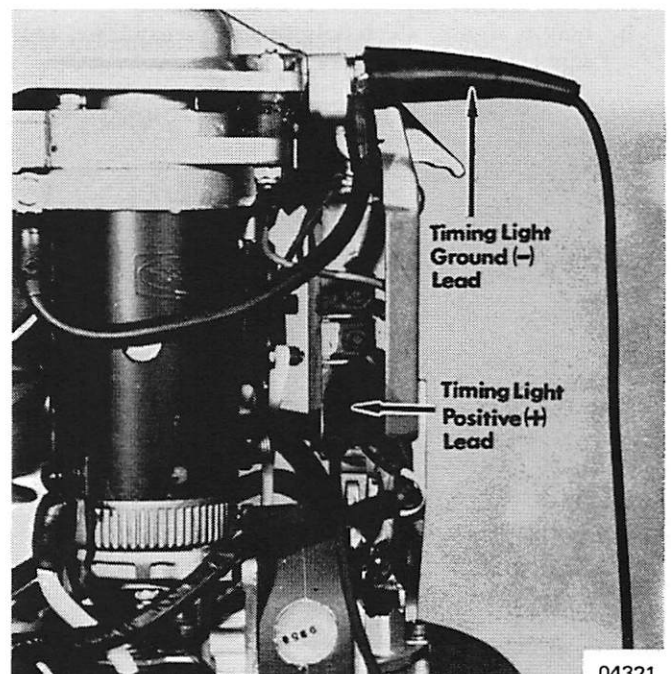

Figure 3. Timing Lite Connected
3. Connect large, red lead to No. 1 spark plug and connect one lead to ground terminal on bottom cowl or front cover plate (Figure 3) and one lead to hot side of starter or red terminal on switch box.